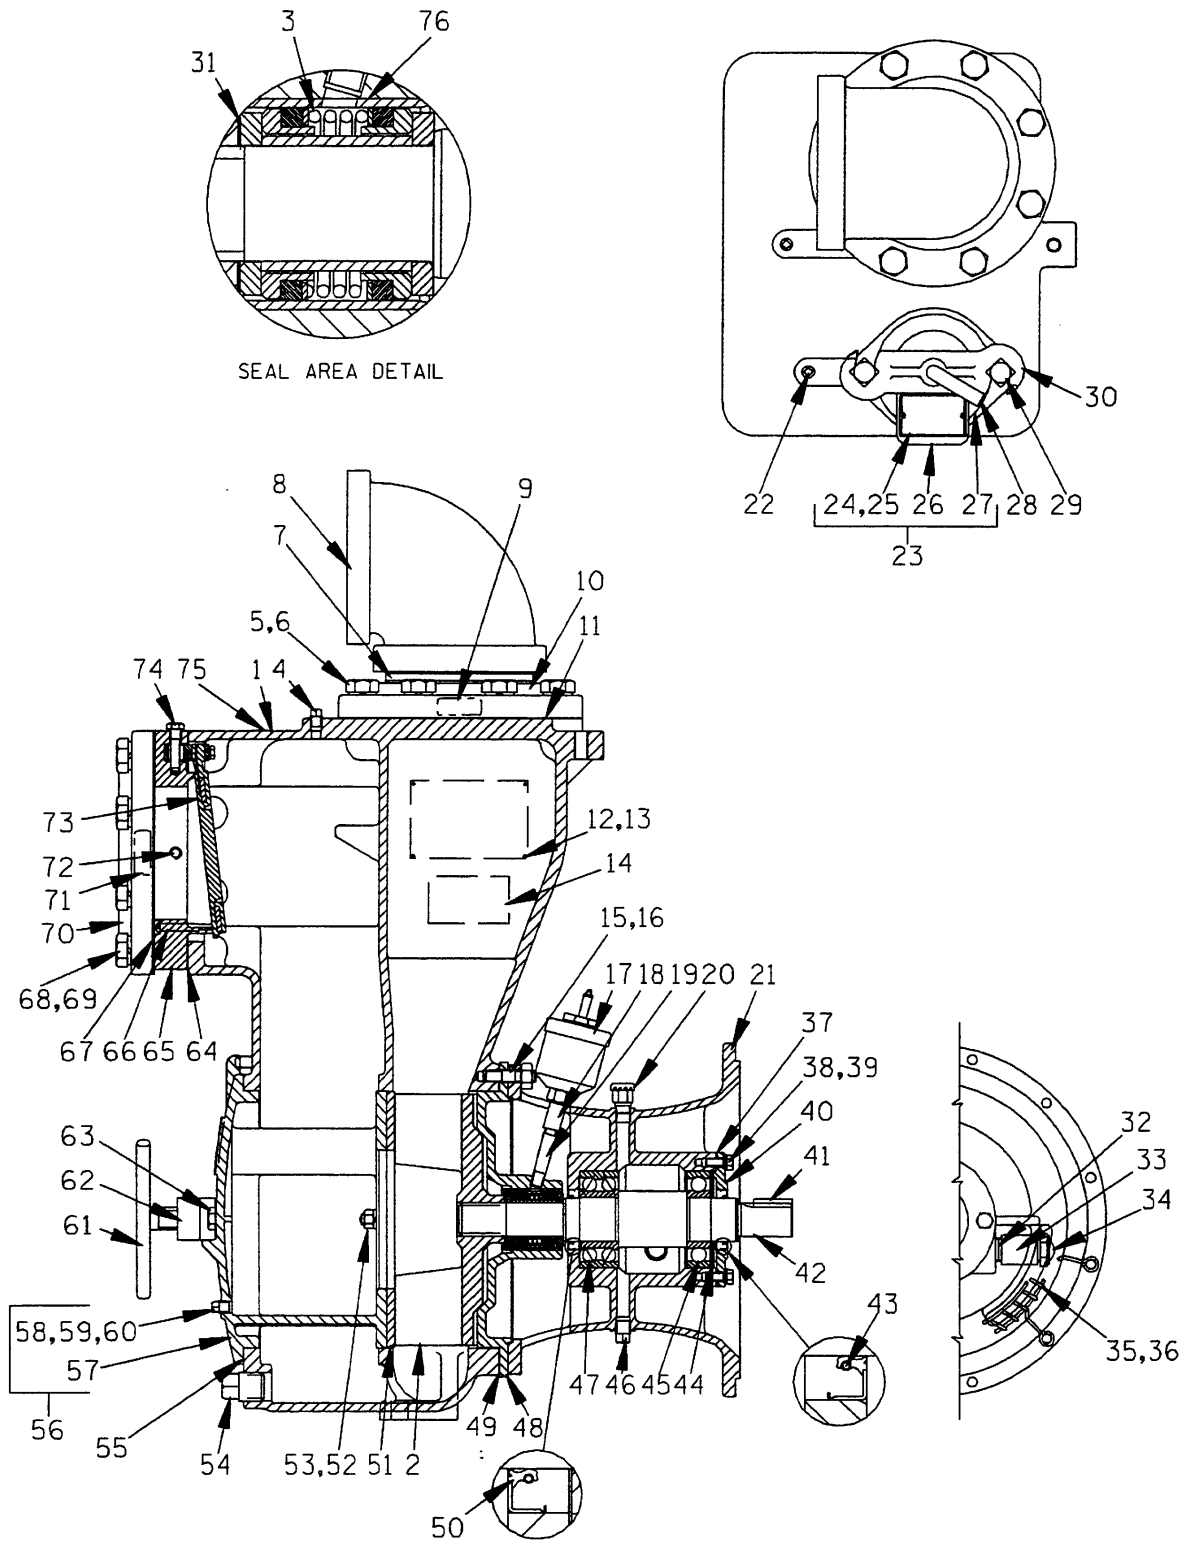

Figure 2. 16C2-(SAE4/10) Pump End Assy
(Figure 2)
If it is necessary to separate the intermediate and drive assemblies from the engine, support the intermediate using a hoist and sling, and remove the hardware (6 and 7) securing the intermediate to the engine bellhousing. Remove the intermediate guards (35 and 36, Figure 2), and separate the assemblies by pulling the intermediate straight away from the engine.
As the assemblies separate, the flexible portion of the coupling assembly (3) will remain on the shaft. To remove the coupling from the shaft, unscrew the two allen head setscrews from the bushing (2). Screw one of the setscrews into the puller hole on the circumference of the bushing. As the coupling and bushing separate, remove the bushing, and slide the coupling off the shaft. Remove the shaft key (41, Figure 2).
#### (Figure 2)